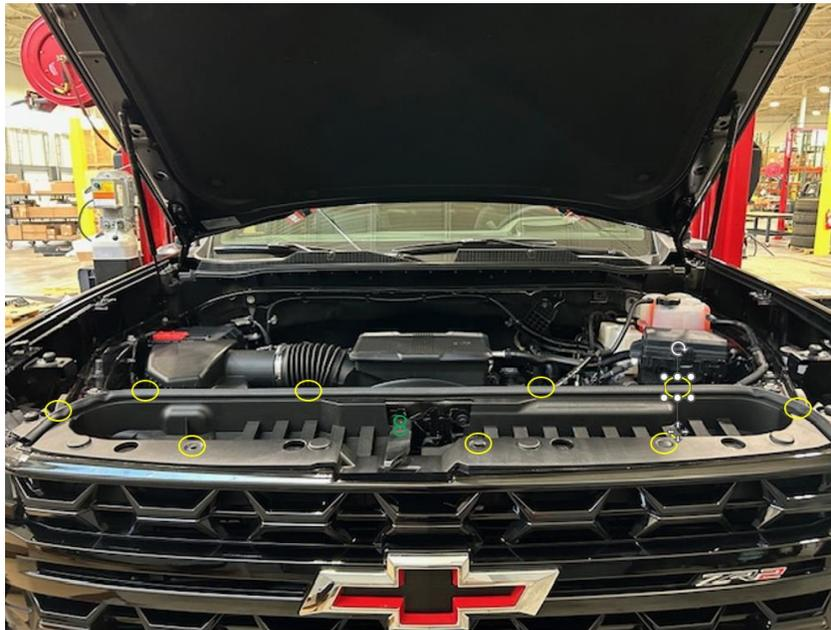

Figure 5
- A. Remove hood latch. See Fig. 5
- B. Remove plastic trim piece from engine bay. See Fig. 5